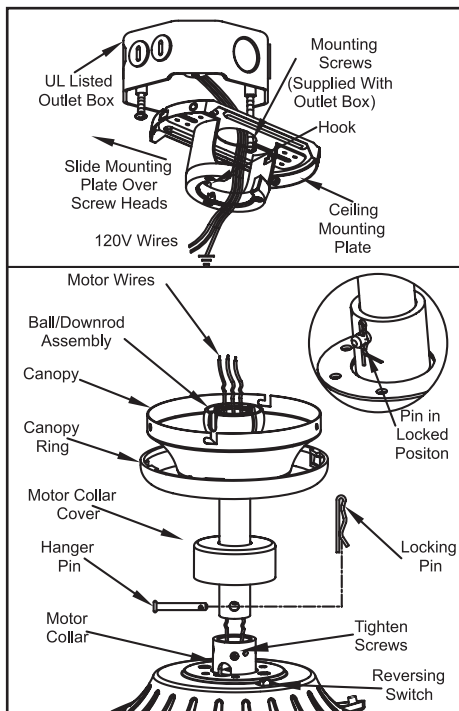

Figure 7
3. Route the wires exiting the top of the fan motor through the decorative motor collar cover then the canopy ring. Make sure the slot openings are on top. Route the wires through the canopy and then through the ball/downrod assembly (Figure 7).
5. Align the holes at the bottom of the downrod with the holes in the collar on top of the motor housing (Figure 7). Carefully insert the hanger pin through the holes in the collar and downrod. Be careful not to jam the hanger pin against the wiring inside the downrod. Insert the locking pin through the hole near the end of the bolt until it snaps into its locked position, as noted in the circle inset of Figure 7.
1. Pass the 120-volt supply wires through the center hole in the ceiling mounting plate as shown in Figure 7.
2. Install the ceiling mounting plate on the outlet box by sliding the mounting plate over the two screws provided with the outlet box (Figure 7). If necessary, use leveling washers (not included) between the mounting bracket and the outlet box. Note that the flat side of the mounting plate is toward the outlet box (Figure 7).
The fan shipped from the factory with the reversing switch positioned to circulate air downward. If airflow is desired in the opposite direction, turn your fan off and wait for the blades to stop turning, then slide the reversing switch (located at the top of the motor housing, refer to figure 7 on page 5) to opposite position, and turn fan on again. The fan blades will turn in the opposite direction and reverse airflow.